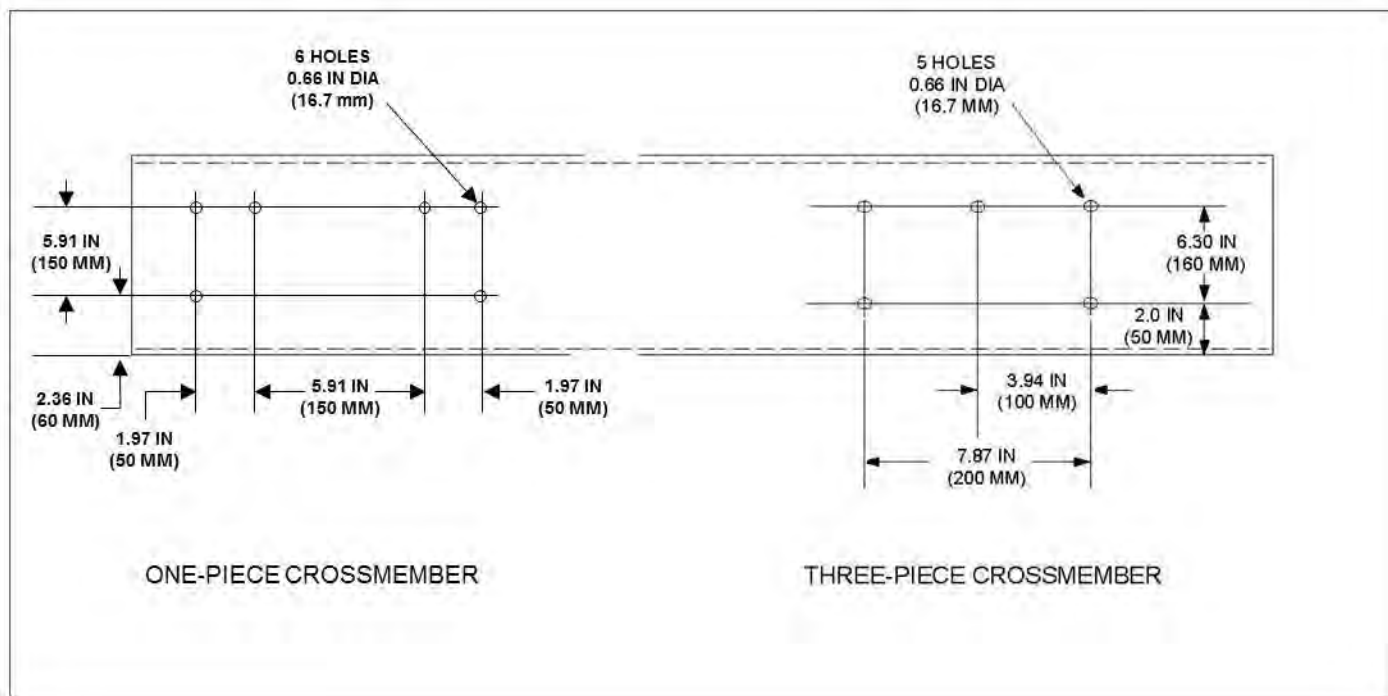
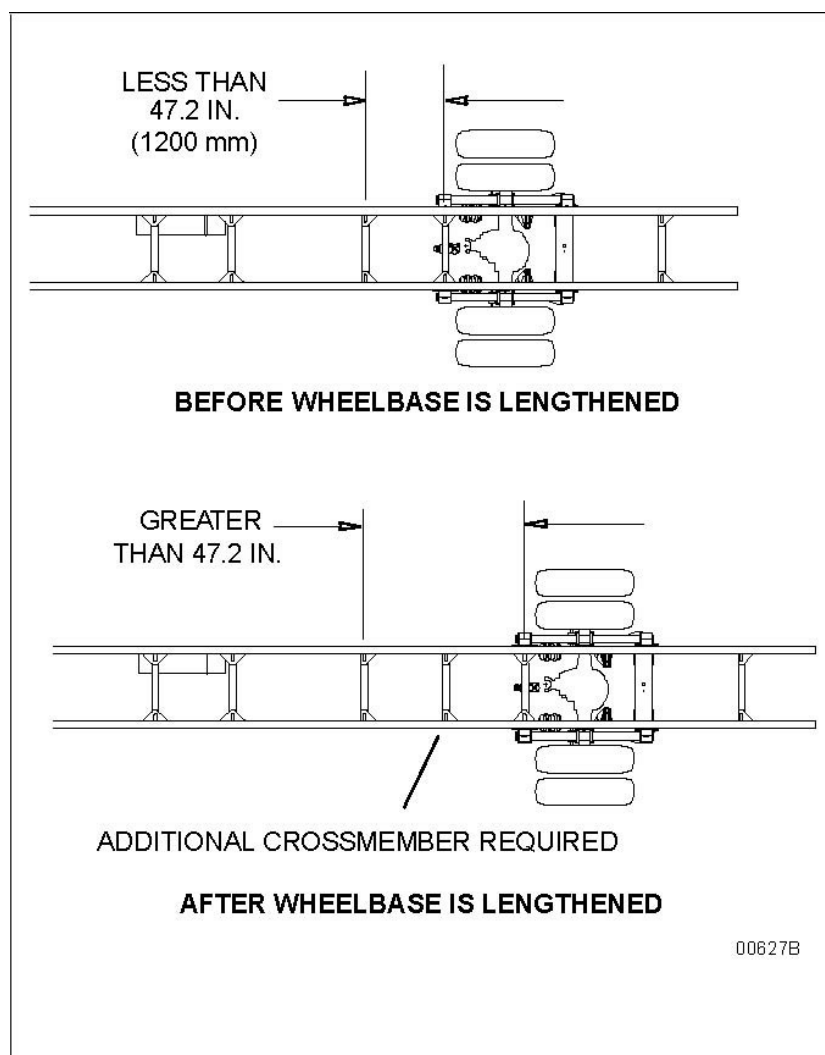

FIGURE 4-7. Crossmember Gusset Hole Patterns (Additional Holes Available in 50 mm Horizontal Increments)
FIGURE 5-2. Crossmember Spacing Requirements
- The maximum allowable distance between the forward suspension crossmember and the next crossmember forward is 47.2 inches (1200 mm). If the distance exceeds 47.2 inches (1200 mm) after the wheelbase is lengthened, add a crossmember between them. See Figure 5-2. See Figure 4-7 on page 4-5 for crossmember hole patterns.